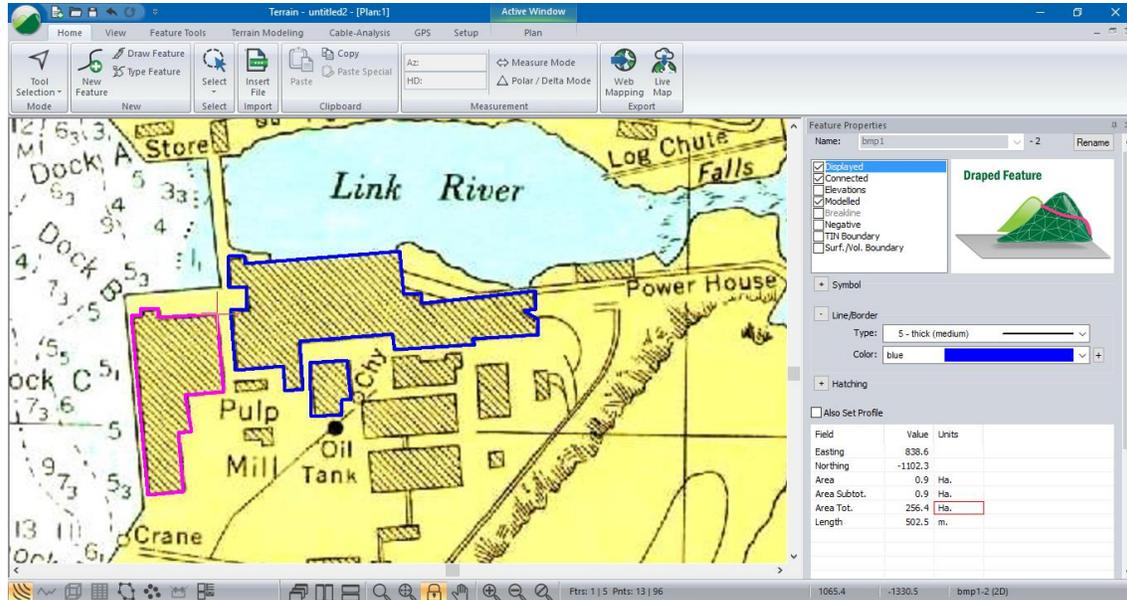

Figure 4-7: Traced Buildings with Status Details in the Feature Property Panel
17. Trace around the boundary of three of the buildings using the mouse (like in Figure 4-7):
18. Select each building perimeter with the mouse and look at the Status portion of the Feature Properties window. (Figure 4-7). If the panel is not currently showing, select from the bottom navigation bar, or *View* | *Add to Panel* | *Feature Properties*.